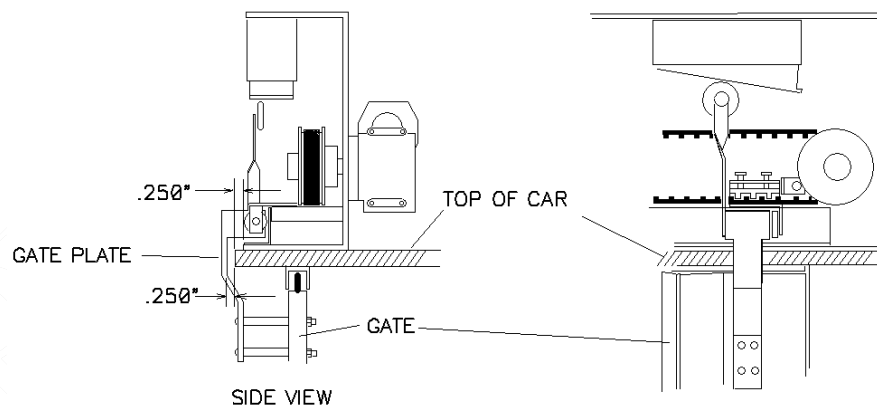

Figure 9 - Operator Side View (Right Hand Operation)
2. Place Gate Operator on top of car so it is set back .25 inches from the edge to the car top. See Figure 9 - Operator Side View. Do not secure operator at this time.
4. Attach the Gate Plate to the Gate. Shimming between the Gate Plate and the Gate may be required to achieve the .25 inch clearance between the gate Plate and top edge of the car as shown in Figure 9 - Operator Side View (Right Hand Operation).